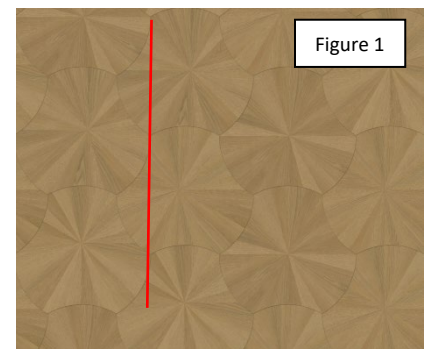

Figure 1
- a. Square the area and establish reference points on the substrate. Dry laying of the area may be necessary to ensure that edge tiles are cut to a uniform size on each opposing wall. Use the point of the upper left curve and the bottom left curve of each tile to align on reference points. See Figure 1.